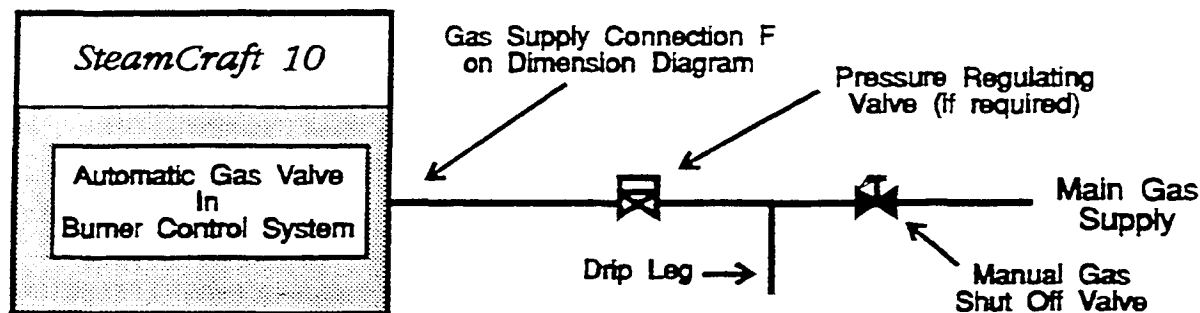

Figure 2-14. Recommended Gas Supply Line Layout
2. Refer to Figure 2-14 for Cleveland Range recommended layout of the gas supply lines. Refer to Figure 2-2, Dimensions and Clearances for pressure data and connection locations.
3. Refer to Figure 2-14, and open the main shut-off valve for the steamer gas supply line.